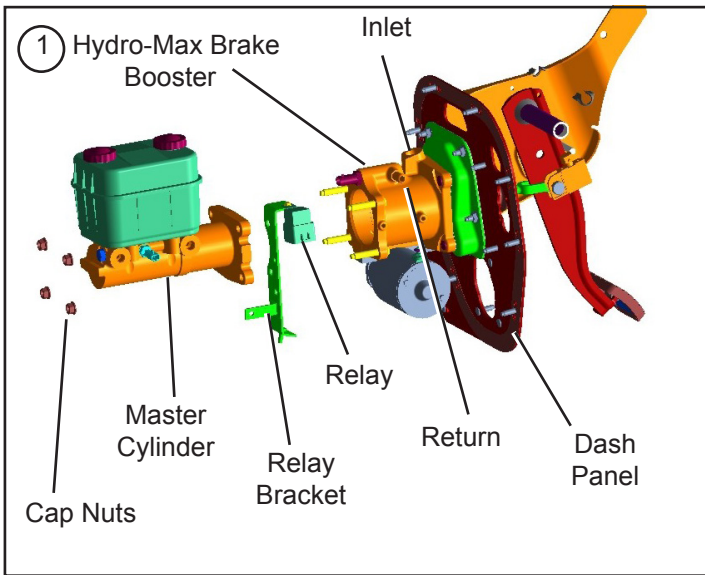

Figure 2 Master Cylinder Removal
2. Identify and mark all hydraulic and electrical lines connected to the Hydro-Max brake booster (1). Disconnect the electrical power lead from the pump motor or relay.
4. Remove the four cap nuts that secure the master cylinder to the Hydro-Max brake booster (1). Note: Support the master cylinder so that the weight is not exerted upon the steel brake lines. *Refer to Figure 2.*